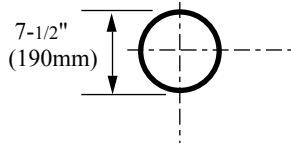

Fig. 24
Locate vent opening on the wall. It may be necessary to first position the fireplace and measure to obtain hole location. Depending on whether the wall is combustible or non-combustible, cut opening to size. (Fig. 24)
(For combustible walls first frame in opening. Fig. 24).
COMBUSTIBLE WALLS : Cut a 9-3/8"H x 9-3/8"W (240 mm x 240 mm) hole through the exterior wall and frame as shown (Fig. 24).
1. Establish vent hole through the wall (Fig. 24).